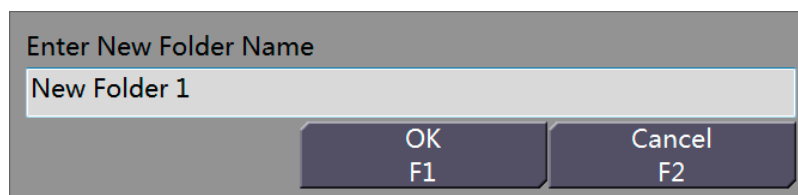

Figure 18-21 New Folder Interface for Manual Saving
Step 3 Manu-Save Image Folder: Click “New” to create a folder, as shown in Figure 18-21.